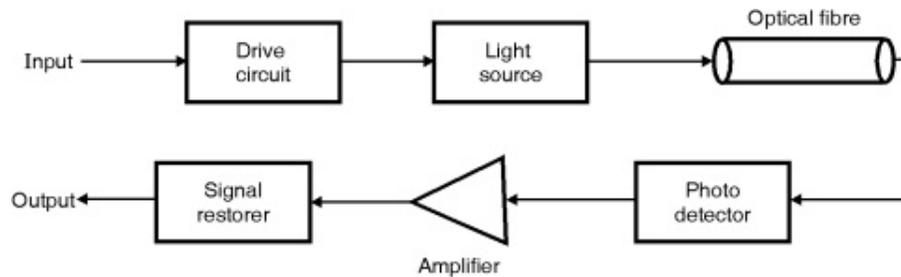

Fig. 5.10.1
- The fibre optical communication system is very much similar to that of a traditional communication system. Fig. 5.10.1 shows optical fibre communication system. Light waves which are carrier waves, are generated by a LED or a laser diode.